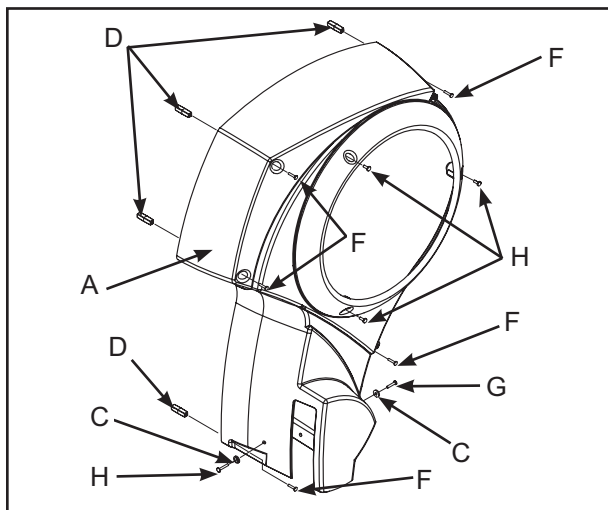

Figure 5
B. Using a Phillips head screwdriver, install the ten screws and two washers securing the side cover. See Figure 5.